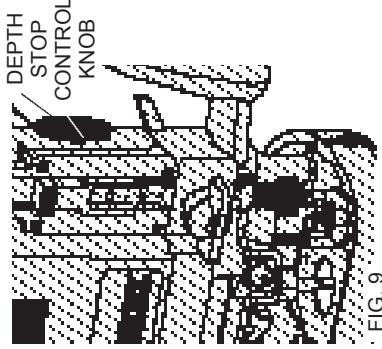

FIG. 9
- Depth Stop Control Knob shown in Figure 9.
8. Using the depth stop control knob, raise the depth stop bar and align the desired mark on the graduated scale with the hairline in the vernier, as shown in Figure 9. (Scale graduated in 1/16ths of an inch)